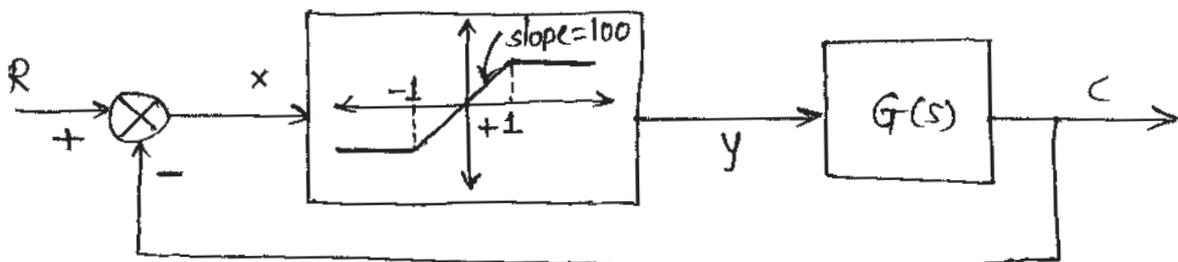

Fig. 4
- Q4) An amplifier as shown in figure 4. Drives a Two phase servomotor. The transfer function of the motor is  $G(s) = \frac{k.e^{-0.1s}}{S(0.15s+1)}$